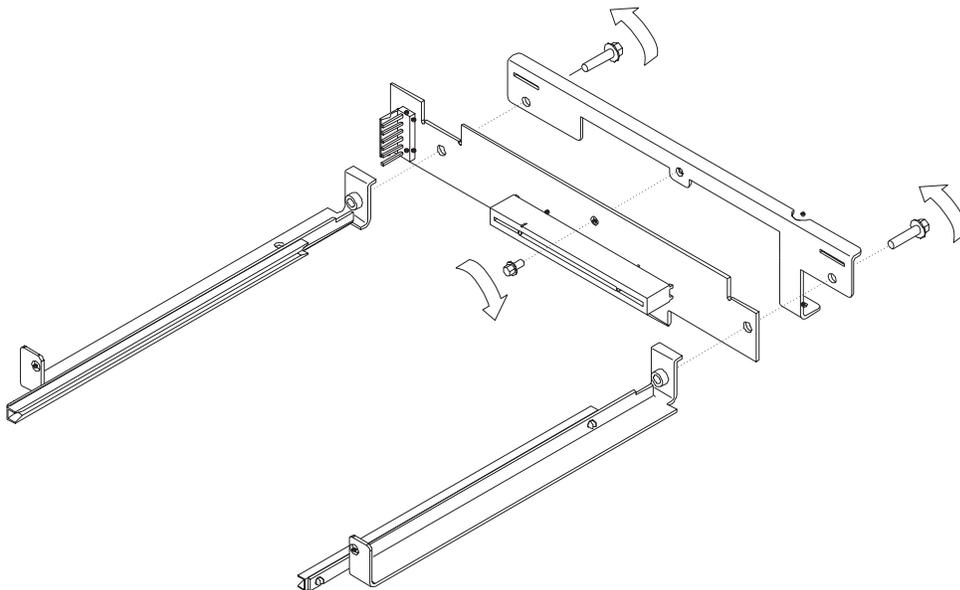

Figure 4-37. Assembling the Riser Card Assembly
- 1** Attach the riser card Assembly with the supplied screw to the riser brace as shown in Figure 4-37.